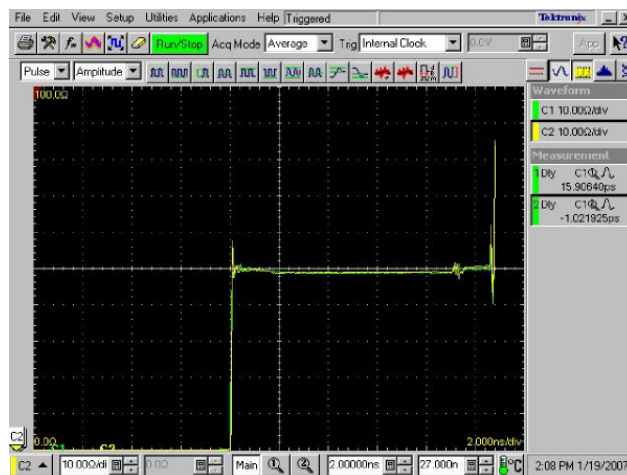

Figure 6: Screen image after turning off the Mag View feature
7. Turn off the Mag View feature (see Figure 6).